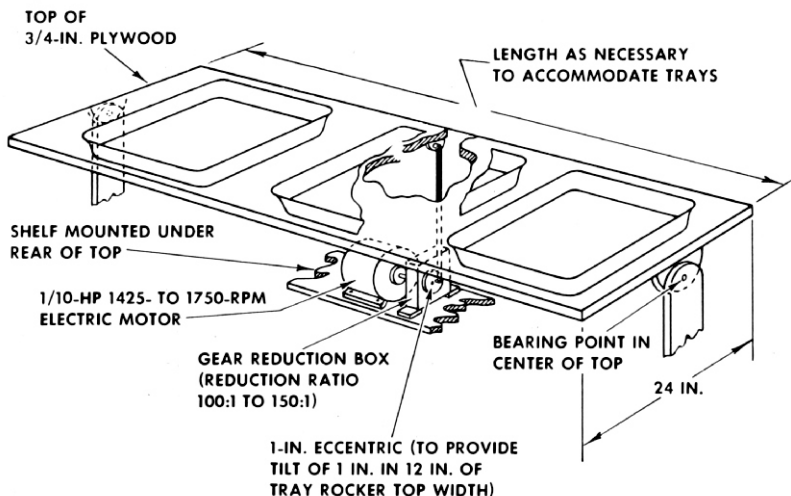

Figure 5
First, to eliminate any loose gelatin specks along the edges of the paper, rinse each sheet in running water for 30 seconds with agitation and drain it thoroughly. Then immerse the sheets in the working solution of KODAK Dye Transfer Paper Conditioner, immediately interleaving them a few times. Agitate the tray periodically. (If available, an automatic tray rocker provides agitation conveniently. See Figure 5.) The time range for conditioning the paper is 15 minutes to 2 hours.
2. Dye matrices. Remove the matrices from the hot water, drain them briefly, and place them in the working dye solutions. Dye the red-filter positive cyan, the green-filter positive magenta, and the blue-filter positive yellow. The time of treatment is at least 5 minutes at room temperature; longer dyeing does no harm. Agitate the trays frequently until dyeing is completed; an automatic tray rocker will be found convenient; see Figure 5.